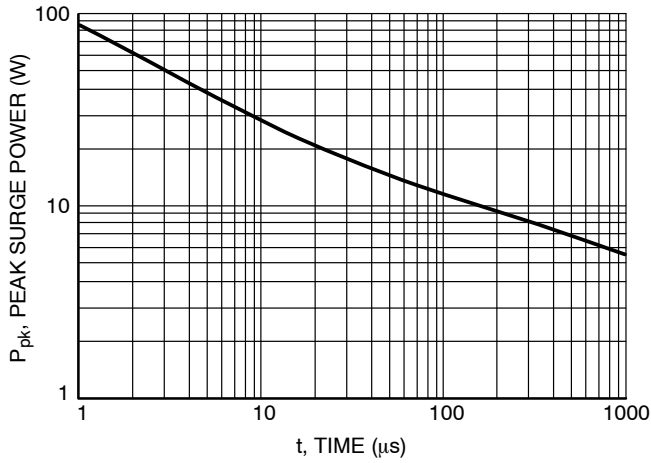

Figure 1. Pulse Width
1. Nonrepetitive current pulse per Figure 1.